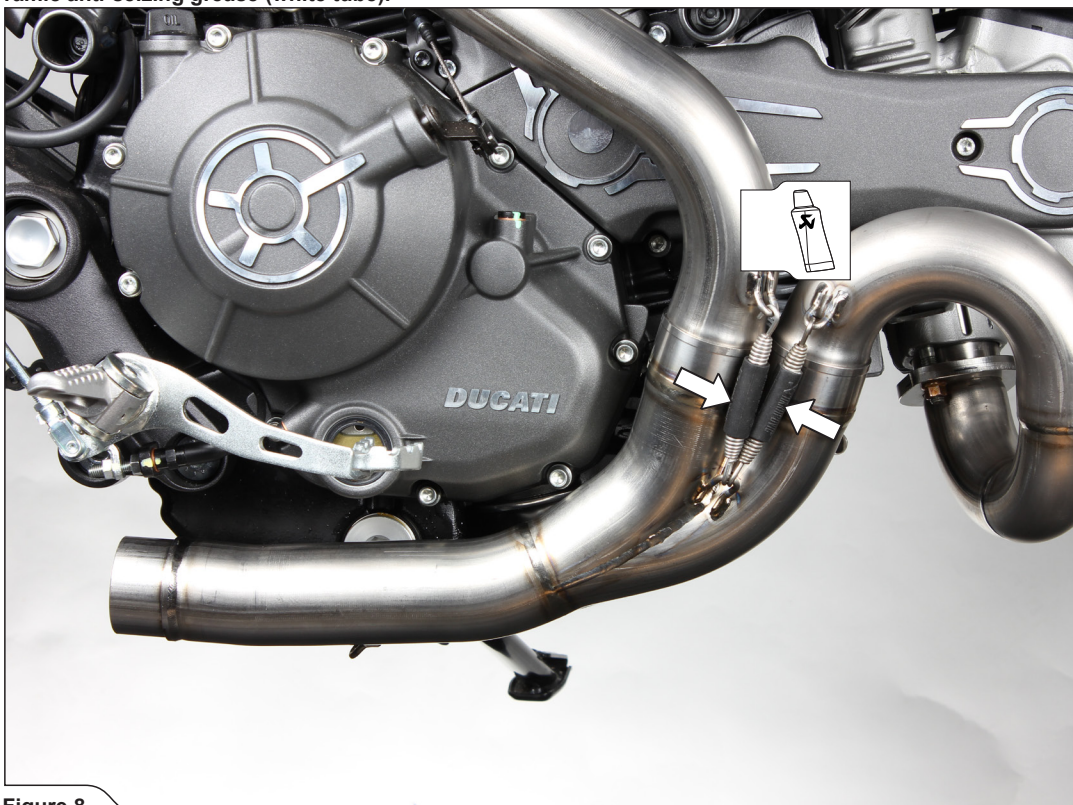

Figure 8
- Slide the link pipe onto the headers and attach the springs (**Figure 8**).